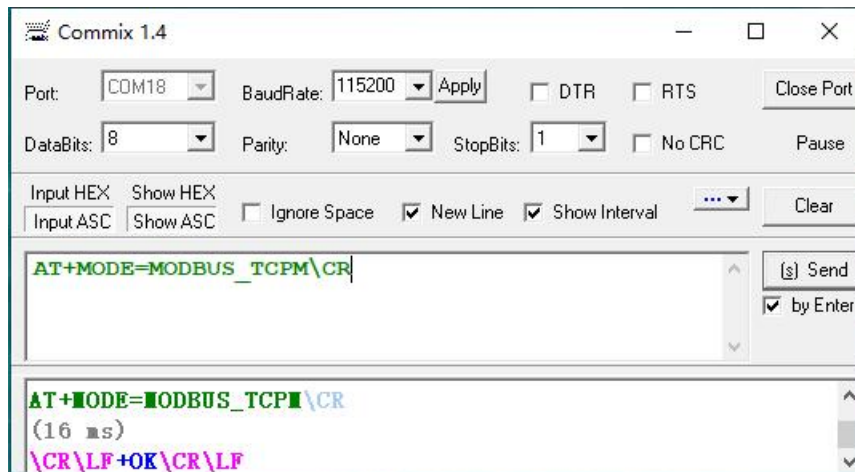

Figure 6-29 AT instruction for setting MODBUS \_ TCPS mode
1) Set the module to MODBUS \_ TCPM mode with port set to 5000. Both AT commands and web pages are available. Take AT command setting as an example, as shown in Figure 6-29. For specific AT command mode entry operation, please refer to. AT Instruction Set Section.
2) As shown in Figure 6-29, the receipt of "+ OK" indicates that the module has finished setting the MODBUS \_ TCPM mode. Then exit AT Command mode, the program automatically returns to passthrough mode.